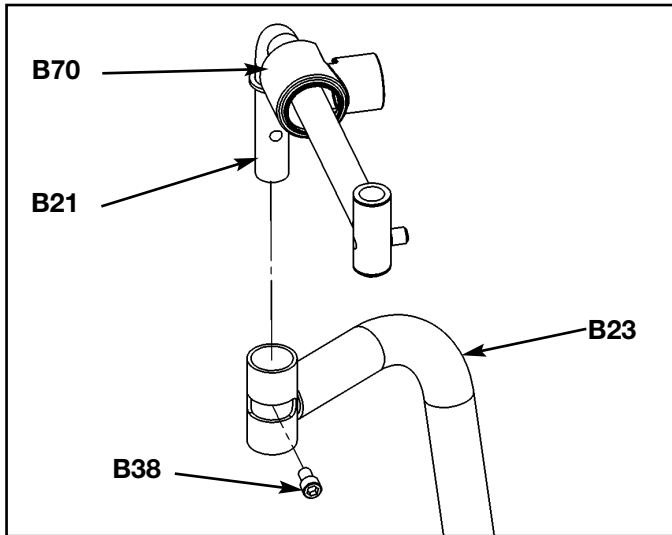

Figure 11B
- C.** Secure right pivot handle (#B21) to right arm (#B23) using SHCS .375-16 x .625 (#B38). See Figure 11B.